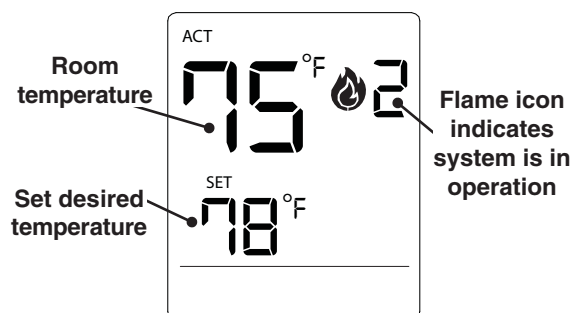

Fig. 45-2 Thermostat detail
- **Thermostat Mode (Fig. 45-2):** In this mode, the fireplace will remain functioning until the room temperature increases 1°F above the set temperature.